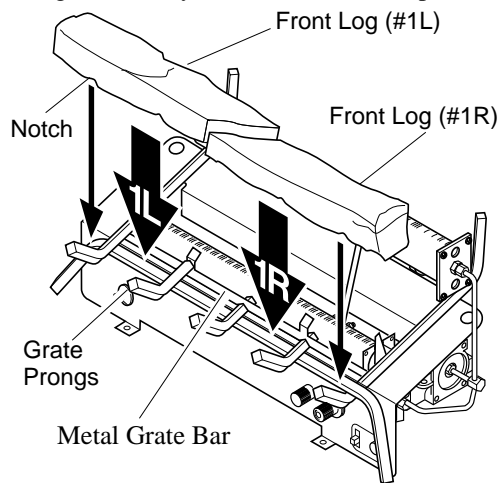

Figure 16 - Installing Front Logs (#1L and #1R)
1. Place front logs (#1L and #1R) on top of the grate. Make sure the notches in the bottom of the logs fit over the grate prongs (see Figure 16). Push back of logs flush with metal grate bar. *Note:* 18" model has only one front log.